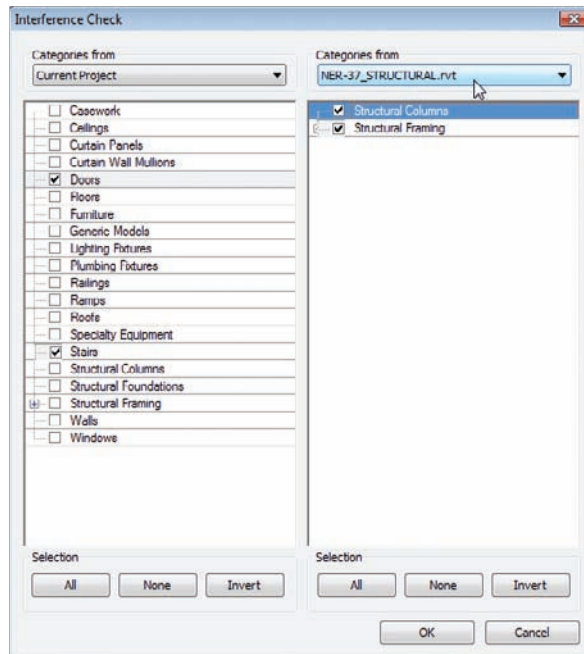

FIGURE 20.18 Selecting the components to find in the interference report
3. Select Doors and Stairs from the list, as shown in Figure 20.18.
5. Select Structural Framing and Structural Columns (see Figure 20.18).